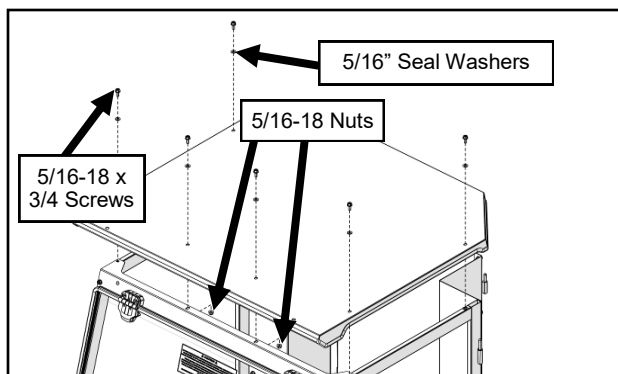

Fig. 13.2a (Roof Fasteners)
13.2 With assistance, set the roof on top of the cab. Loosely secure with (6) screws and plastic seal washers on the top of the roof into the windshield support and side frames. With an additional (2) screws and nuts on back edge of the roof into the rear legs. See Figures 13.2a and 13.2b.